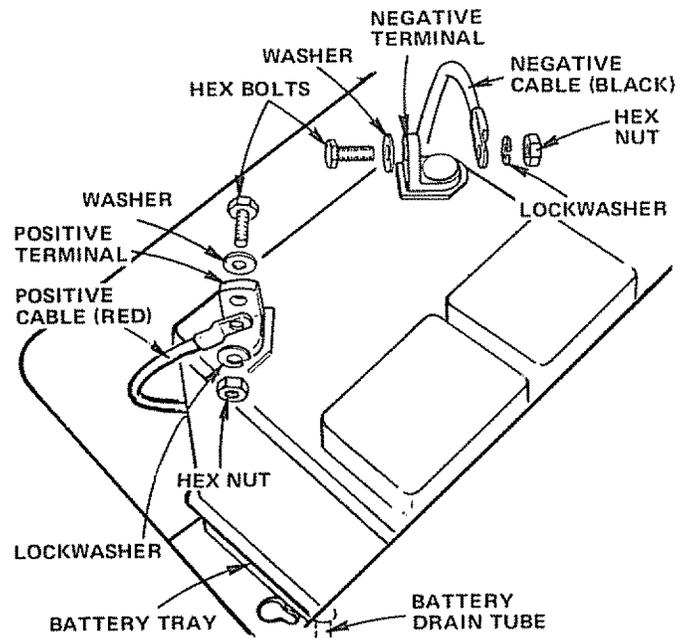

FIGURE 4
- b. Lower Battery into Fender Well with Battery Terminals toward front of tractor. Make sure Battery rests in Battery Tray (Fig. 4).
- a. Connect RED Battery Cable to Positive (+) Battery Terminal with Hex Bolt, Flat Washer, Lockwasher and Hex Nut (Fig. 4). Tighten securely.
- b. Connect BLACK Ground Cable to Negative (-) Battery Terminal with remaining Hex Bolt, Flat Washer, Lockwasher and Hex Nut (Fig. 4). Tighten securely.